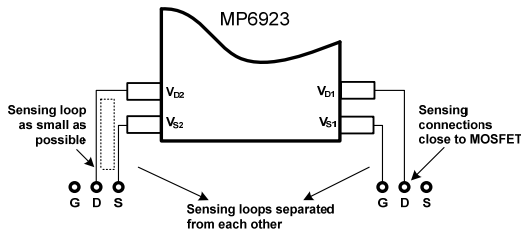

Figure 6: Sensing for V_D/V_S
- Keep the sensing loop as small as possible. (see Figure 6)